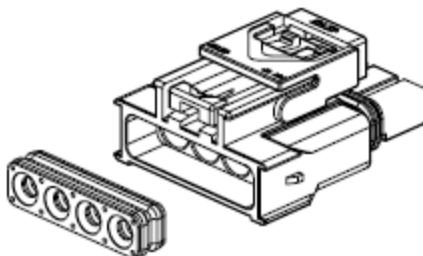

Figure 10
2. Insert the gang seal into the contact cavities at the back end (wire side) of the cap and plug housings as shown in Figure 10.